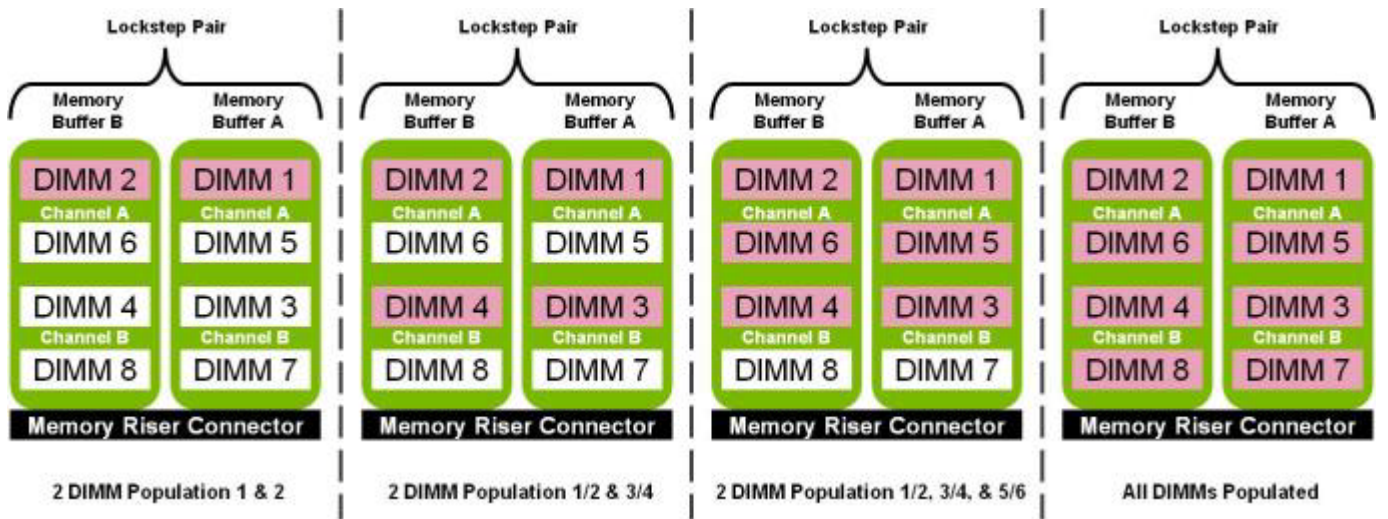

Figure 18. PowerEdge R910 DIMM Naming and Numbering
- DIMM sockets are placed 0.450" (11.43 mm) apart, center-to-center in order to provide enough space for sufficient airflow to cool stacked DIMMs. DIMMs must be installed in each channel starting with the DIMM farthest from the processor (DIMM 1). Population order is identified by silkscreen and a label. The order is dependent on the memory configuration used. See Figure 18 for DIMM naming and population ordering.